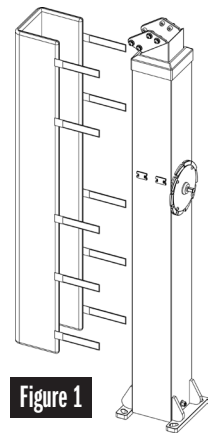

Figure 1
**STEP 1:** Remove the Pad from the Base Pole (Part F). See Figure 1.